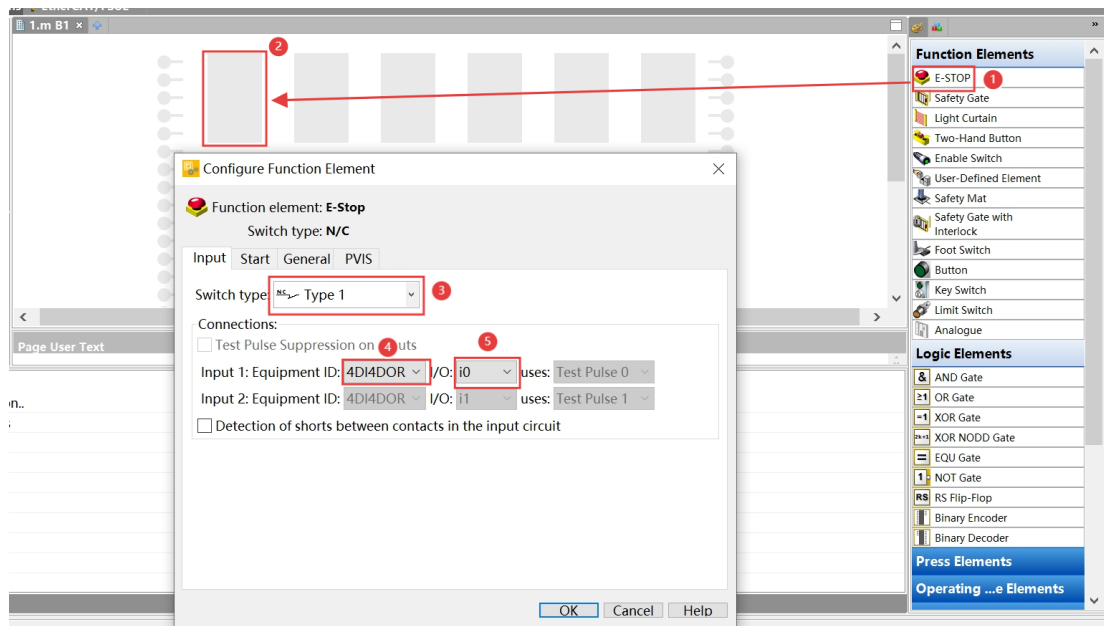

Figure 14-32 Configuring the input switch
- b. Drag the emergency stop button function block into the leftmost blank rectangular slot, and select the switch type, device ID, and input/output ports, as shown in “Figure 14-32 Configuring the input switch” on page 649. Click the OK button at the bottom of the window to complete the setup.